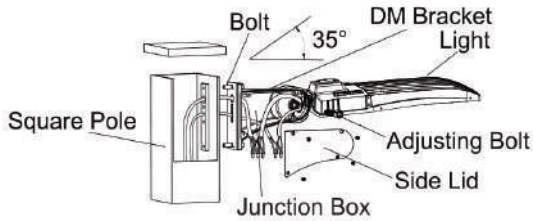
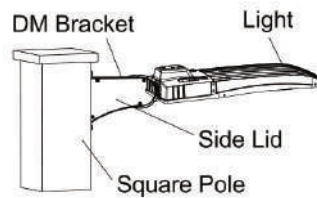

Figure 15
Figure 16
Step 1: Fix DM bracket to square pole with bolt, open the side lid of DM bracket, pull the wire into junction box, and connect the wire correctly. (Figure 15)
Step 2: Put the connected wire into the junction box, then cover the junction box. (Figure 16) Notice: Adjustable angle is 0-35° (Figure 15).